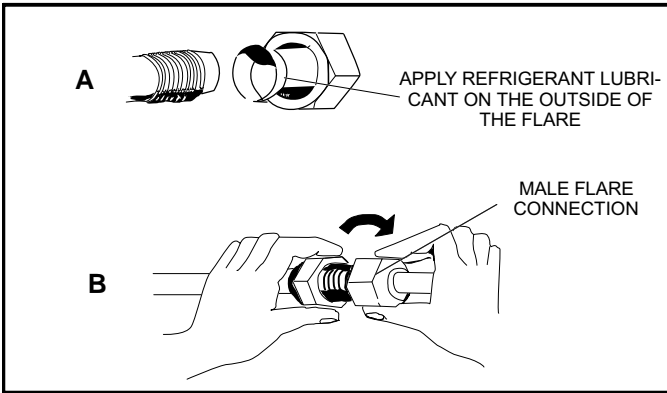
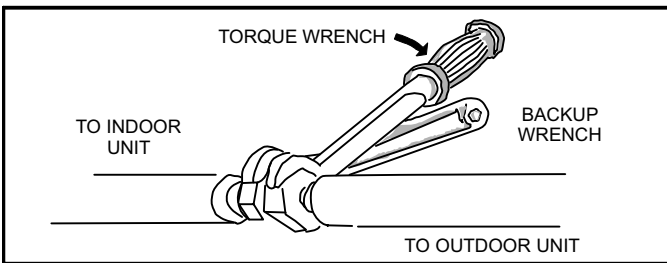
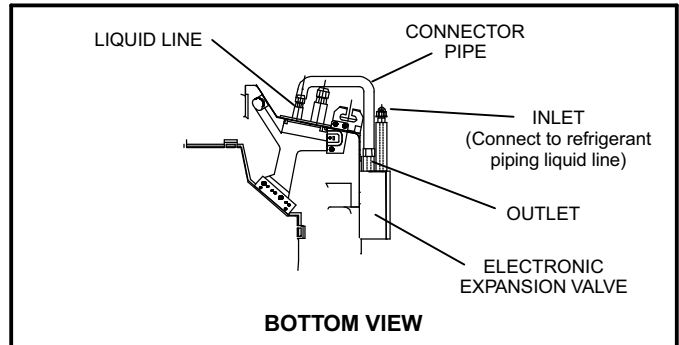

Figure 4. Making Connections at Indoor Unit (Male to Female Connection)
Figure 5. Tighten Flare Nut
Figure 6. Liquid Line / Expansion Valve Connector
- 5 - Apply recommended HFC-410A refrigerant lubricant to the outside of the flared refrigerant lines (figure 4-A and figure 6).
- 6 - Align the threaded connections with the flared refrigerant lines. Tighten the flare nuts lightly at first to obtain a smooth match (figure 4-B and figure 6).
7 - Once snug, continue another half-turn on each nut which should create a leak-free joint. A torque wrench may be used to tighten flare nuts using table 2 recommendations. (see figure 5). **Do not over-tighten a flared joint.**
- Immediately align the connector pipe with the cassette base liquid line and the electronic expansion valve connection labeled "OUTLET." See figure 6. Hand-tighten the flare nuts at first. Then, use two wrenches to continue to tighten the nuts without twisting the pipes. See figure 5. Torque requirements are given in table 2. **Again, do not over-tighten the flared joints.**